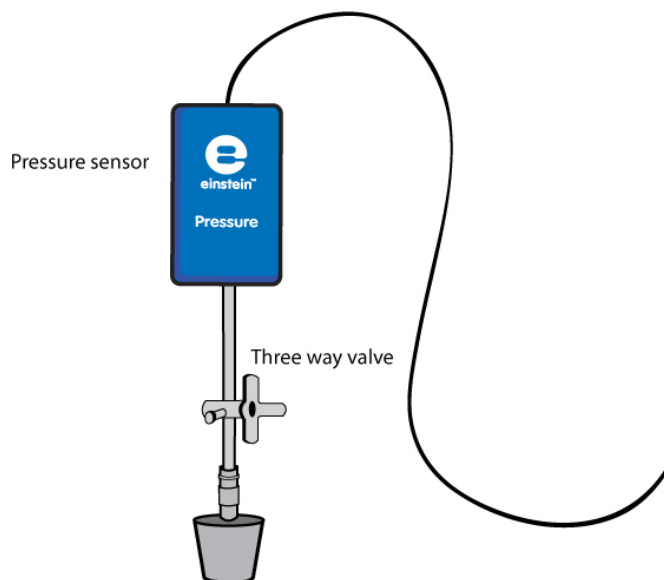

Figure 4
9. Insert a syringe extender into both stoppers (Figure 4).